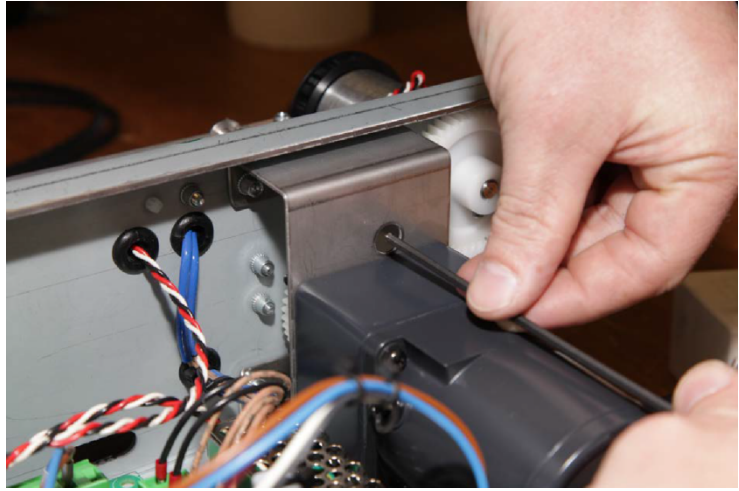

Figure 5
5. Using the “L” wrench, unscrew two screws to release the left element support. **Fig. 5**